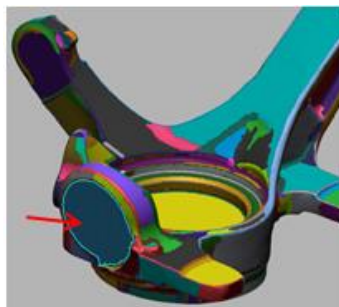

Figure 281
- Select the region as shown **Figure 281** below.